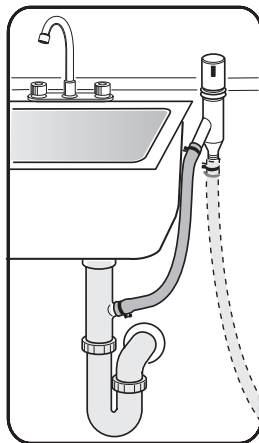

Figure 25
- 3 To the under-sink dishwasher drain connection through an air gap, as shown in **Figure 25**.